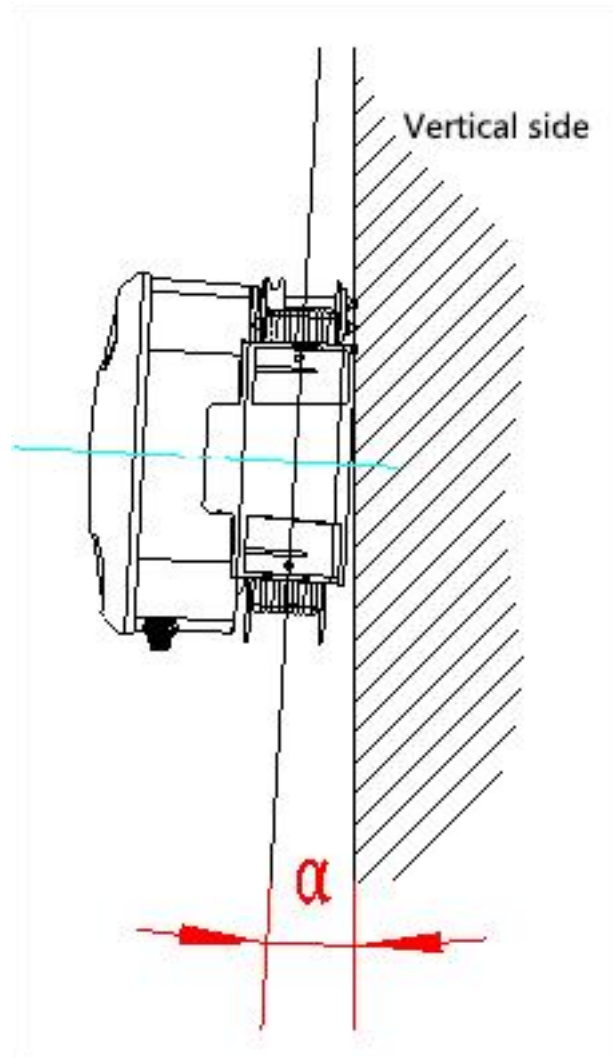

Figure 4.3-1
(1) Longhorn sensor mounting surface should be installed parallel to the vertical plane, and the vertical plane angle  $\alpha$  should meet  $-1^\circ \leq \alpha \leq +1^\circ$ , as shown in Figure 4.3-1.